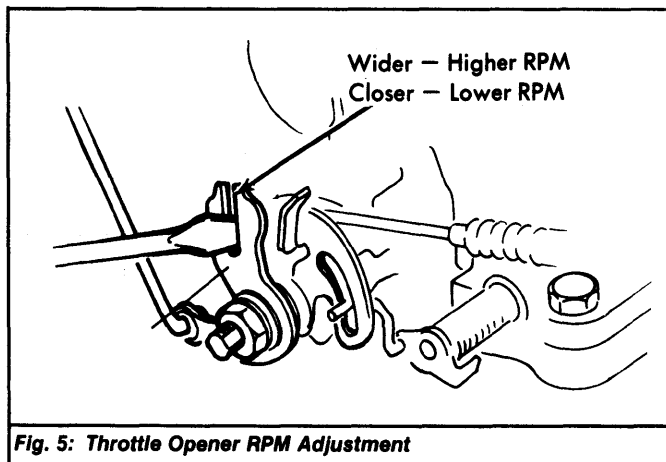

Fig. 5: Throttle Opener RPM Adjustment
- 3) If RPM is incorrect, bend throttle link lever forks apart to increase RPM or bend forks together to decrease RPM. See Fig. 5. Also check for loose vacuum tube connection or faulty vacuum tube. Check for broken diaphragm in throttle opener and replace as necessary.